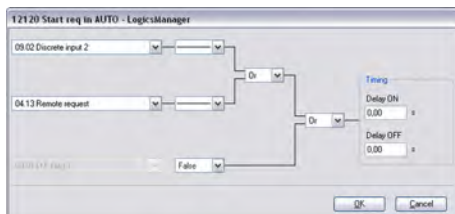

Fig. 149: LogicsManager function "Start req in AUTO"
2. ➤ Configure the LogicsManager function "Start req in AUTO" as shown in (Fig. 149) to start the generator in Automatic operating mode if discrete input [DI 02] ("09.02 Discrete input 2") is energized or a remote start request ("04.13 Remote request" = start via interface) is issued.